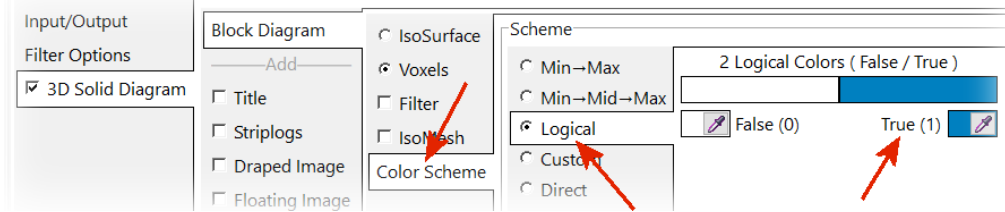

Figure 20
- Configure the *3D Solid Diagram* (Figure 20) such that a *Logical Color Scheme* will be used to set the color for the *Voxels* between the two surfaces (horizontal plane and pit base) to blue (i.e., *Voxels* with a *g*-value of 1).